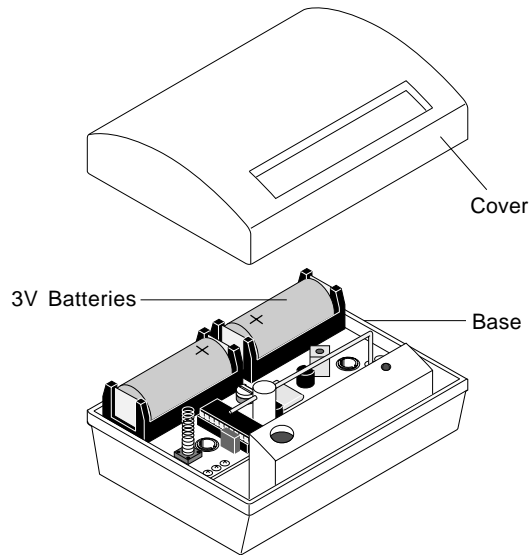

Figure 4. Battery installation
3. Insert two 3V batteries as shown in Figure 4 and replace the cover.